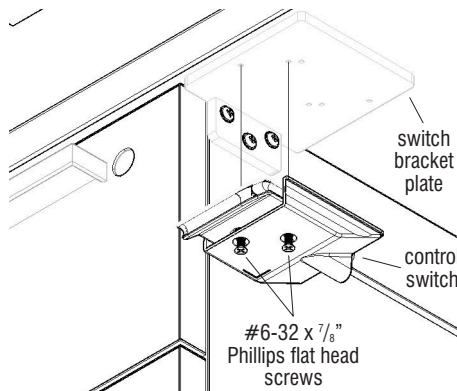

Figure 2
4. Align the mounting holes of the control switch with the mounting holes on the switch bracket plate, Secure switch to the plate using two #6-32 x 7/8" Phillips flat head zinc screws (Figure 2).